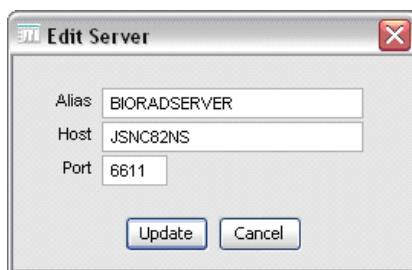

Fig. 30: The Edit Server dialog box.
3. Highlight the alias for the current server (not the localhost) and click the **Edit** button. The **Edit Server** dialog box will open (Fig. 30).